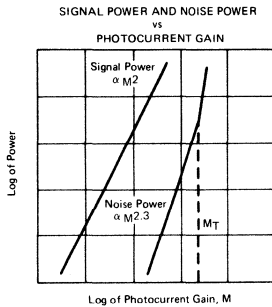

FIGURE 1
3. Gain  $M_T$  is measured at the reverse voltage at which the noise deviates from the theoretical linear characteristic. See Figure 1. Radiant flux is as required to give a photocurrent of 0.1 nA rms at  $V_R = 40 \text{ V}$ .